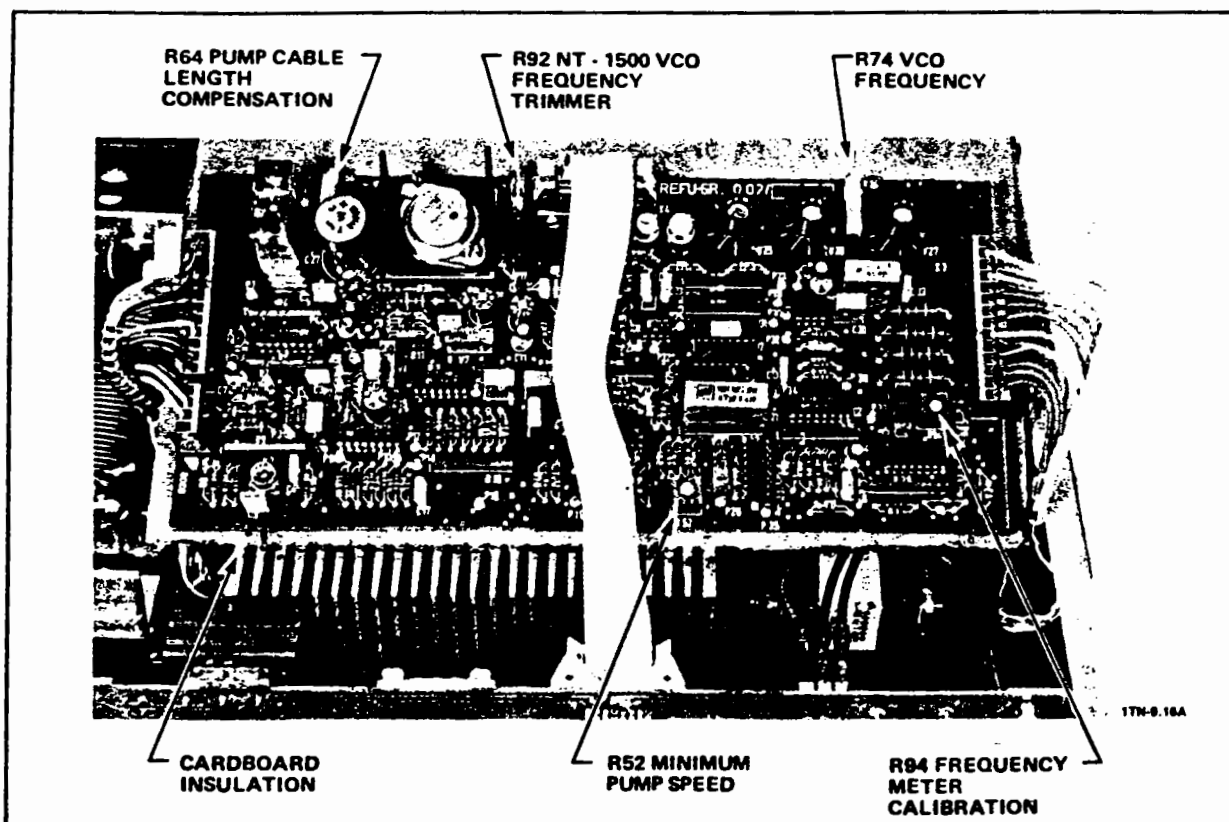

Figure 5-11. NT-1000/1500 Internal Controls
This section contains information of how to adjust the following five controls located inside the NT-1000/1500 Frequency Converter (Fig. 5-11):
2. Turn external pump speed control to its full clockwise (CW) position.
5. With the external pump speed control set to minimum, adjust potentiometer R52 (Fig. 5-11) for a FREQUENCY meter indication of 50%.
4. With the rotor blocked, turn potentiometer R64 (Fig. 5-11) counterclockwise (CCW) until the FAILURE indicator turns on; then, turn R64 clockwise (CW) until the FAILURE indicator just turns off.
4. Reconnect the jumper to terminals X0-4b and -5b, then adjust potentiometer R74 (Fig. 5-11) for a frequency counter indication of 605 Hz.
5. Remove the jumper connected in step 4 and adjust potentiometer R92 (Fig. 5-11) for a frequency counter indication of 355 Hz.
4. With the turbopump operating at its rated rotational speed, adjust potentiometer R94 (Fig. 5-11) for a FREQUENCY meter indication of 100%.